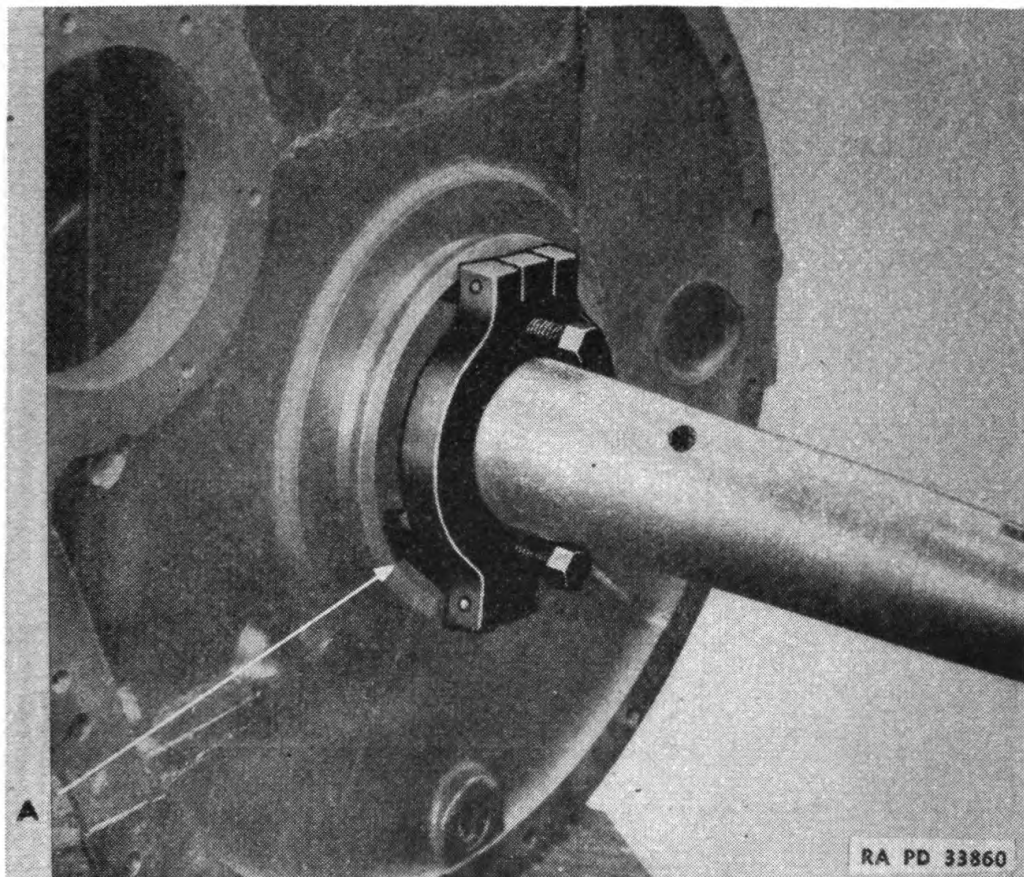

FIGURE 143.—Bearing race removal.
f. Sprocket hub inner bearing outer race.—For removing the bearing race (A) (fig. 143), use one CAT3B7084 puller and two CAT3B7080 screws.